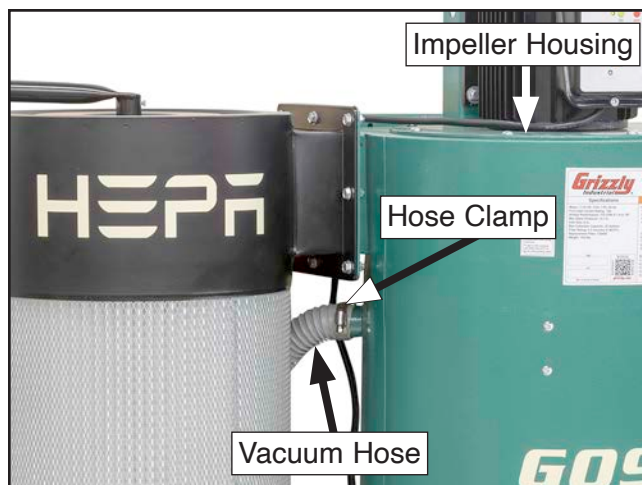

Figure 17. Vacuum hose attached to impeller housing.
8. Attach vacuum hose to impeller housing and secure with pre-installed hose clamp, as shown in **Figure 17**.